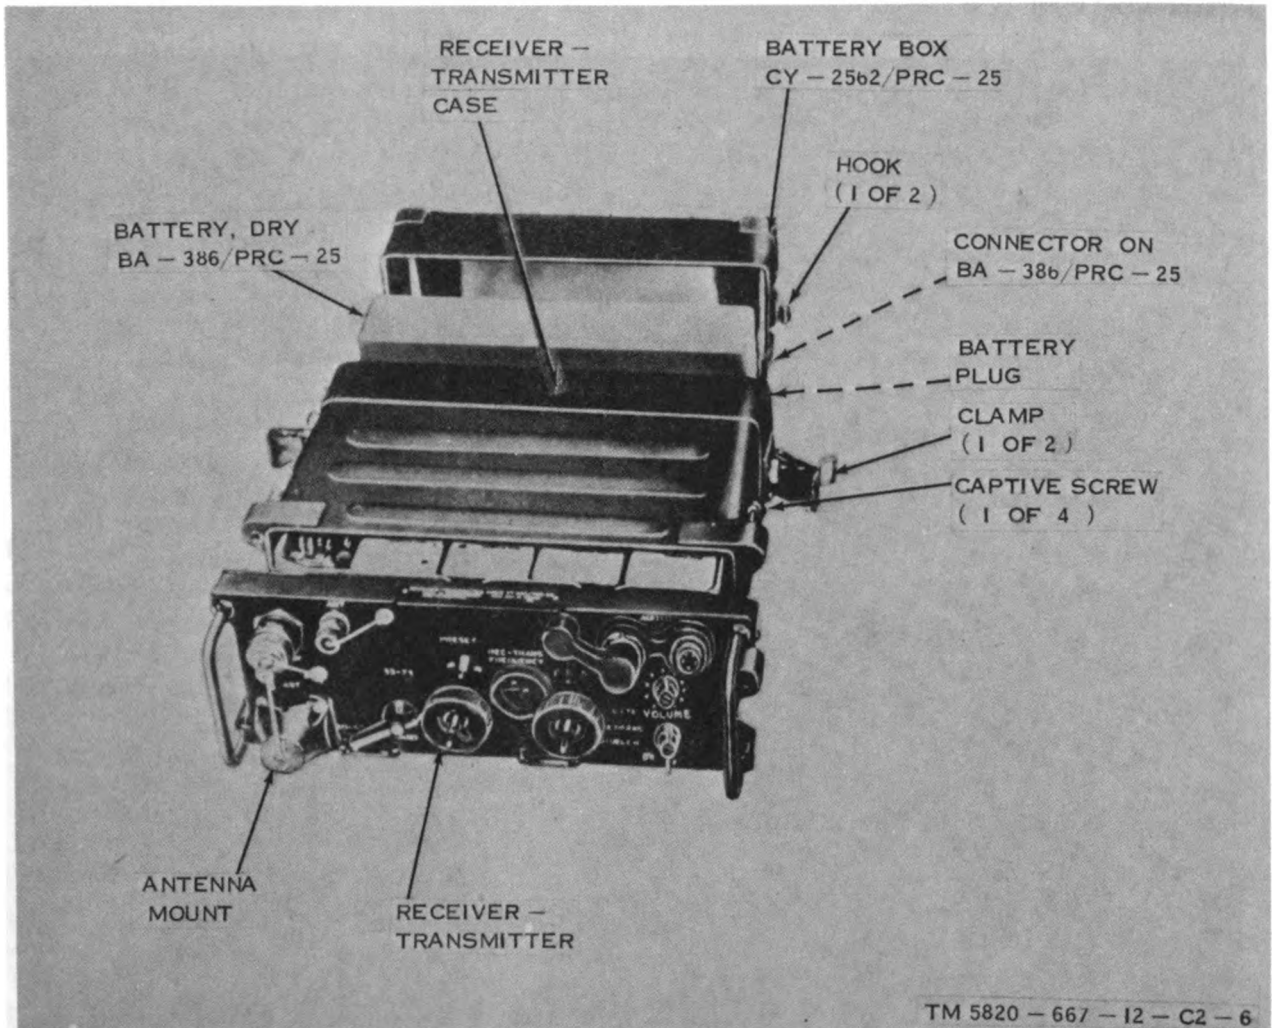

Figure 2-2. Installation of battery in RT-505/PRC-25.
a. The receiver-transmitter is held in the receiver transmitter case by four captive screws (fig. 2-2). The CY-2562/PRC-25 is attached to the receiver-transmitter case by two clamps. The complete RT-505/PRC-25, when assembled, is watertight. All controls are located on the front panel. A battery plug projects from the receiver-transmitter and mates with the connector of the battery.
c. A pressure relief valve (fig. 2-2) is installed in CY-2562/PRC-25 to prevent hydrogen gas (a byproduct of magnesium Battery, Dry BA-4386/U discharge action) from accumulating in the RT-505/PRC-25 case and possibly exploding. The valve is provided in accordance with
1-10. Additional Equipment Required (fig. 2-2)
2-4. Installation of Battery (fig. 2-2)
Install the battery in the RT-505/PRC-25 before proceeding (para 2-4, fig. 2-2).
POWER connector -----	Provides connection for external power supply when RT-505/PRC-25 is used as part of vehicular radio set configurations. When RT-505/PRC-77 uses battery in CY-2562/PRC-25 (fig. 2-2), the radio will not operate if the cover for the POWER connector is not in place.